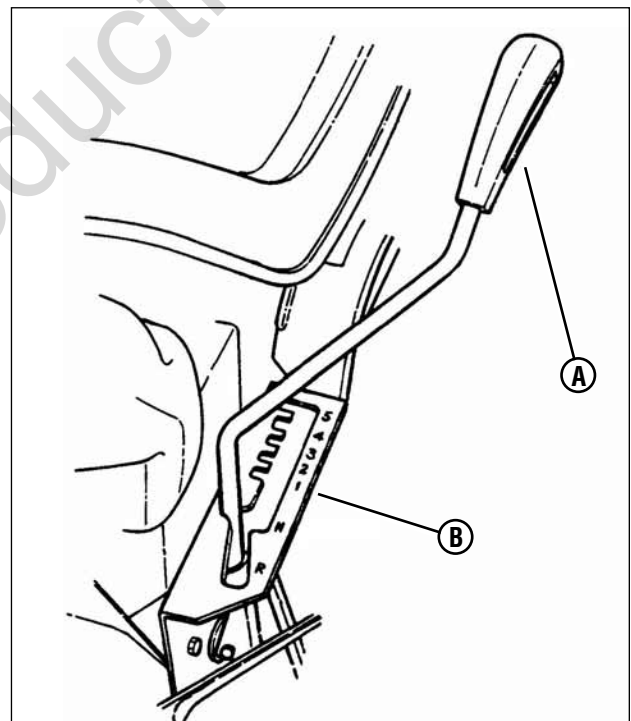

Figure 12: Transmission shift lever
3. Place the transmission shift lever (**A, Figure 12**) into the first forward speed notch (**B**).